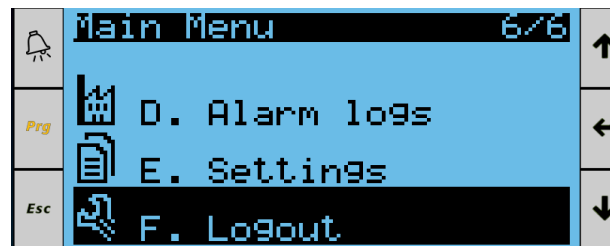

Figure 92. Main Menu, Page 2
31. Return to the Main Menu using the “Esc” button and select Logout shown in **Figure 92** below.